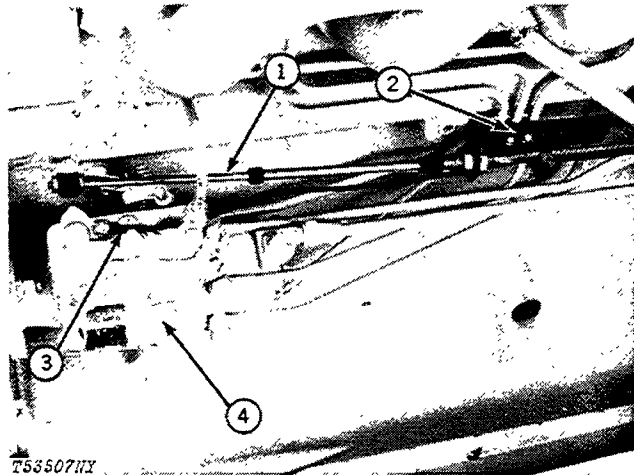

Fig. 8-Speed Control Cable and Fuel Shut-Off Wiring
Disconnect speed control cable (1, Fig. 8) and bracket (2).
Disconnect fuel shut-off wiring (3, Fig. 8) from fuel injection pump (4).
Connect fuel shut-off wiring (3, Fig. 8) to fuel injection pump (4).
Connect speed control cable (1, Fig. 8) and install bracket (2).